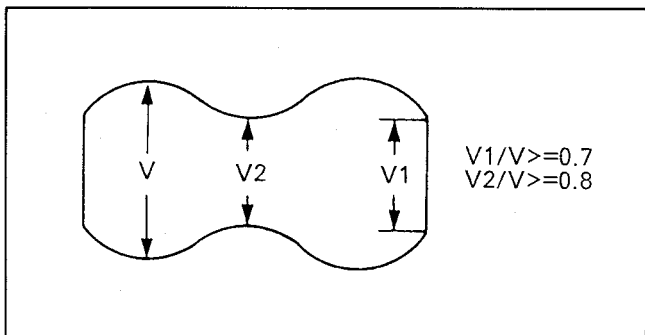

Fig. M12 Spec. of Envelope Figure
8. Set the tracking control into centre fix position and adjust for maximum RF envelope. If the RF envelope does not meet these specifications, $V1/V \geq 0.7$, $V2/V \geq 0.8$ (Refer to Fig.M12) then repeat steps 1-8 again.